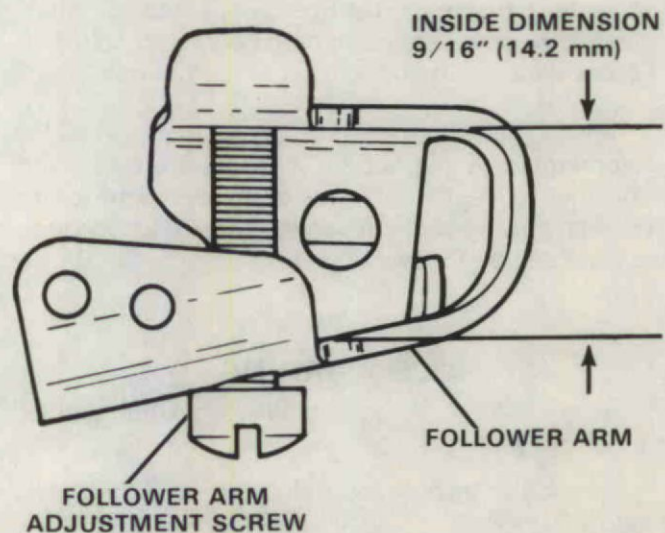

Figure 30. Setting Inside Dimension of Follower Arm.
- A. Adjust follower arm adjustment screw so that inside dimension of follower arm is 9/16" (14.2 mm). Figure 30.